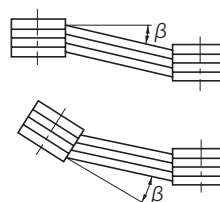

Figure 5-8
- The parallelism, eccentricity  $\beta$  of the two pulleys should be within  $20'$ . (See Figure 5-8)